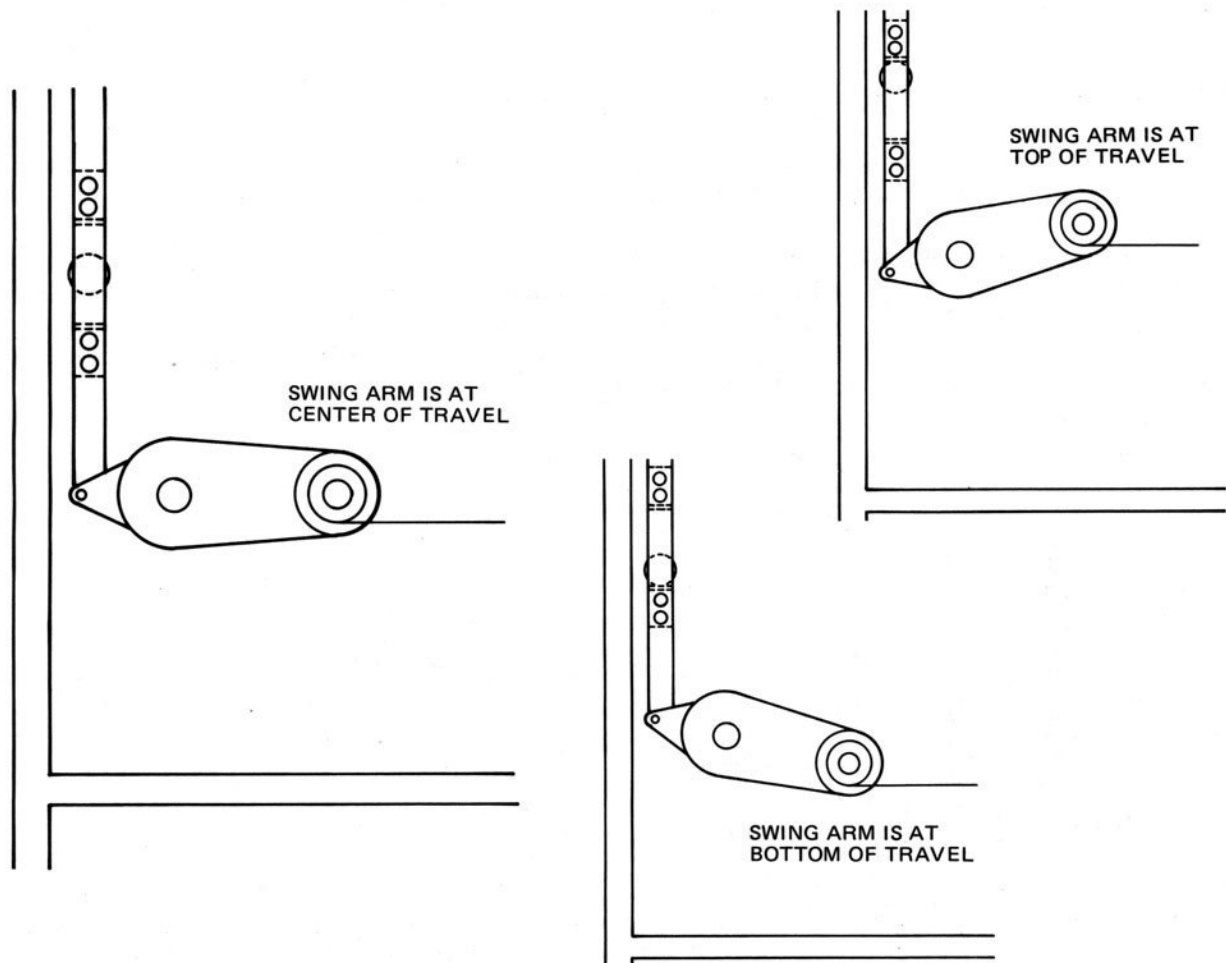

Figure 5-3. Swing arm travel limit adjustment
5.4 SWING ARM TRAVEL (Ref. to Fig. 5-3)
5.6 FAST FORWARD/REWIND DAMPING SOLENOIDS (Ref. to Figs. 5-3 & 5-4)
2. Hold the swing arm at the middle of its range of travel (e.g., so the roller guide pin bushing is in line with the punch mark on the deck plate, per Figure 5-3).